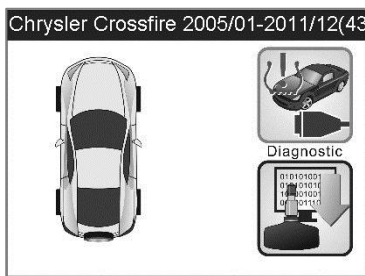

Figure 4-17 Sample Diagnostic Selection Screen
3. Follow the same process in **TPMS Sensor Check** to enter the activation screen. Use the UP/DOWN scroll button or LEFT/RIGHT scroll button to select the Diagnostic function on the upper right corner of the screen (*Figure 4-17*).